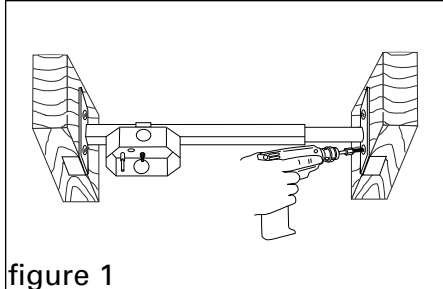

figure 1
1. Using the four screws provided, mount the Saf-T-Bar® to the ceiling joist (figure 1).